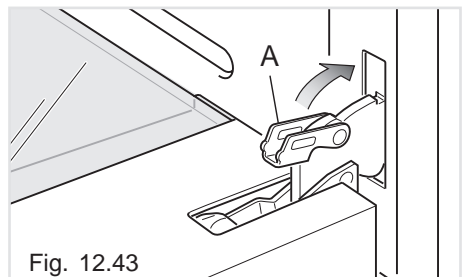

Fig. 12.43
4. Unlock the oven door by opening it completely and closing the lever "A" on the left and right hinges (fig. 12.43).